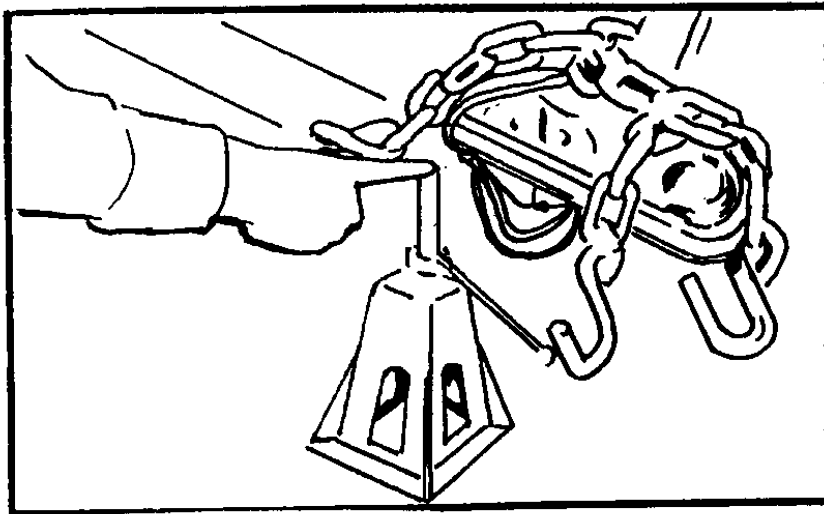

Figure 2
5. Remove stack jacks from trunk of car or trailer and insert top of one stack jack in the slotted groove on the trailer tongue and adjust until trailer body is level by turning handle clockwise. See Figure 2.